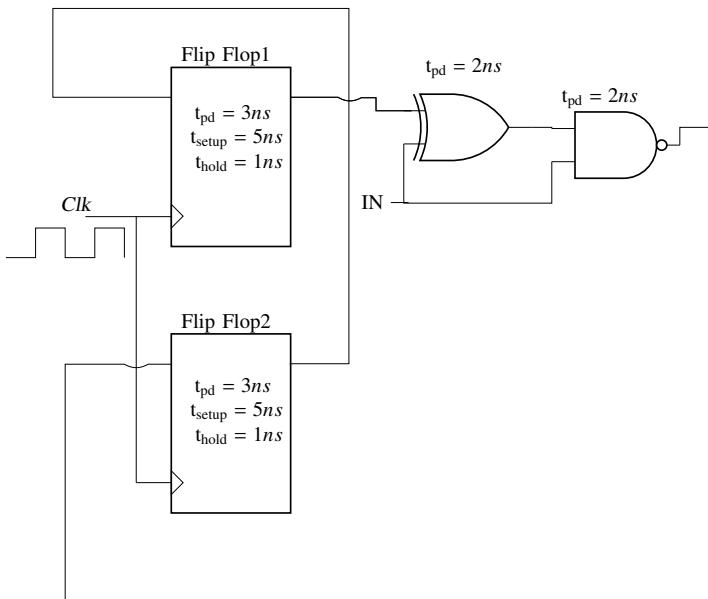

Fig. 5.22
22. For the components in the sequential circuit shown in Fig. 5.22 below,  $t_{pd}$  is the propagation delay,  $t_{\text{setup}}$  is the setup time, and  $t_{\text{hold}}$  is the hold time. The maximum